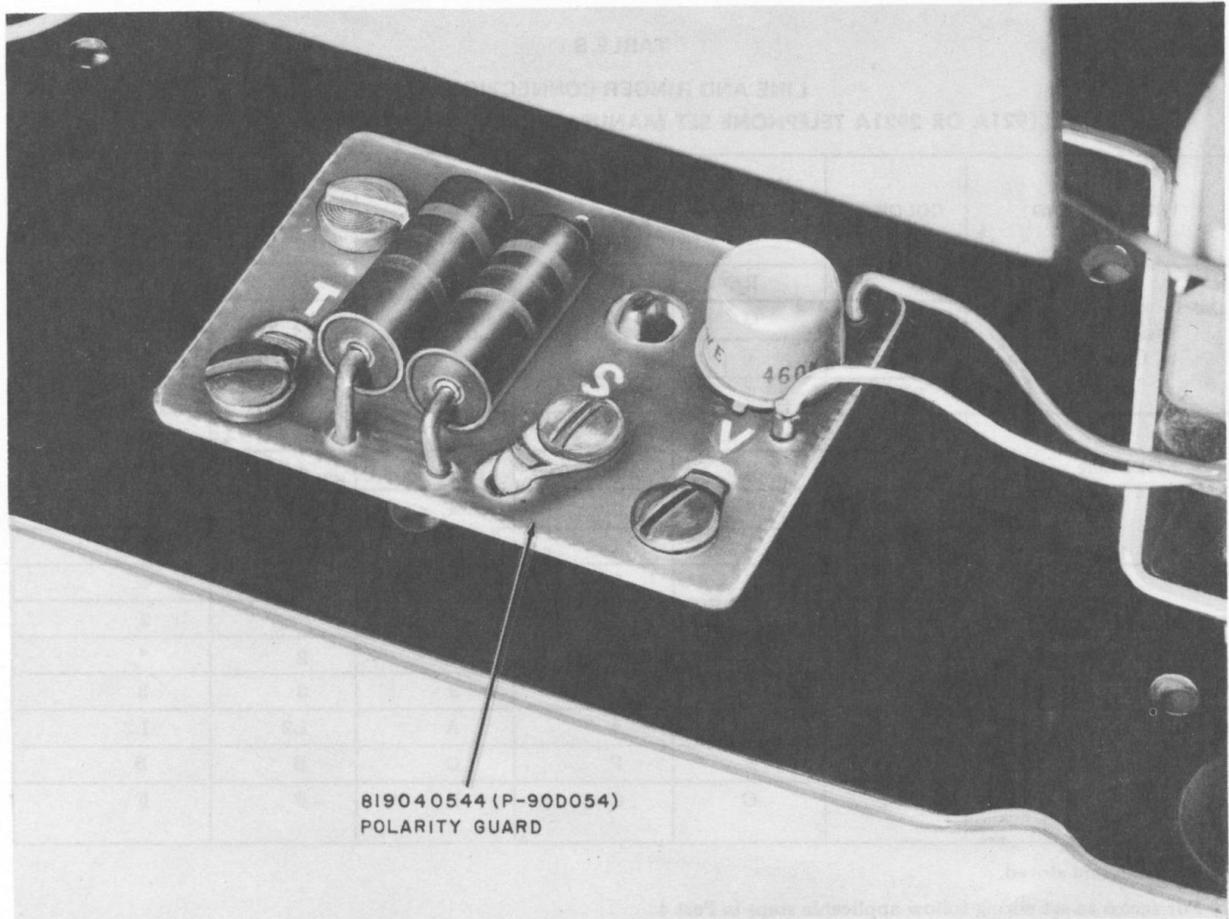

Fig. 5—D-180229 Kit of Parts for the 2921A Telephone Set Manufactured Prior to February 1975
- D-180229 Kit of Parts [Polarity Guard for 2921A manufactured prior to February 1975 (Table G) Fig. 5]
(4) Make connections as shown in Table G for telephone sets manufactured prior to February 1975, and Table H for telephone sets manufactured during or after February 1975.
(5) In 2921A telephone sets the Guard Assembly (Fig. 5) mounts on the right hand side of the dial mounting bracket with the screw contained in the D-180229 Kit of Parts. The bent tabs on the guard assembly bracket should fit over the back edge of the portion of the dial mounting bracket where the telephone set terminal board mounts. In this location the guard assembly is suspended over the ringer gong with the component facing up.
(6) In 2921B telephone sets, the 819041708 (P-90D170) guard assembly mounts below the TOUCH-TONE dial on a plastic mounting boss.
(7) Reinstall dial and replace the housing.